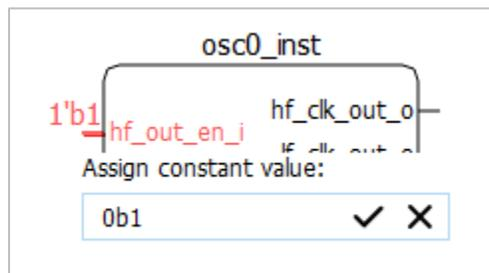

Figure 2.69. Dialog Box of Assigning Constant Value to an Input Pin
2. A small dialog box appears (Figure 2.69). Enter the desired value. To erase the value and start over, click X. For all buses (more than one pin), the format is hexadecimal. Make sure the value fits the number of pins in the bus. For example, a 3-pin bus can accept 0-7, but not 8.